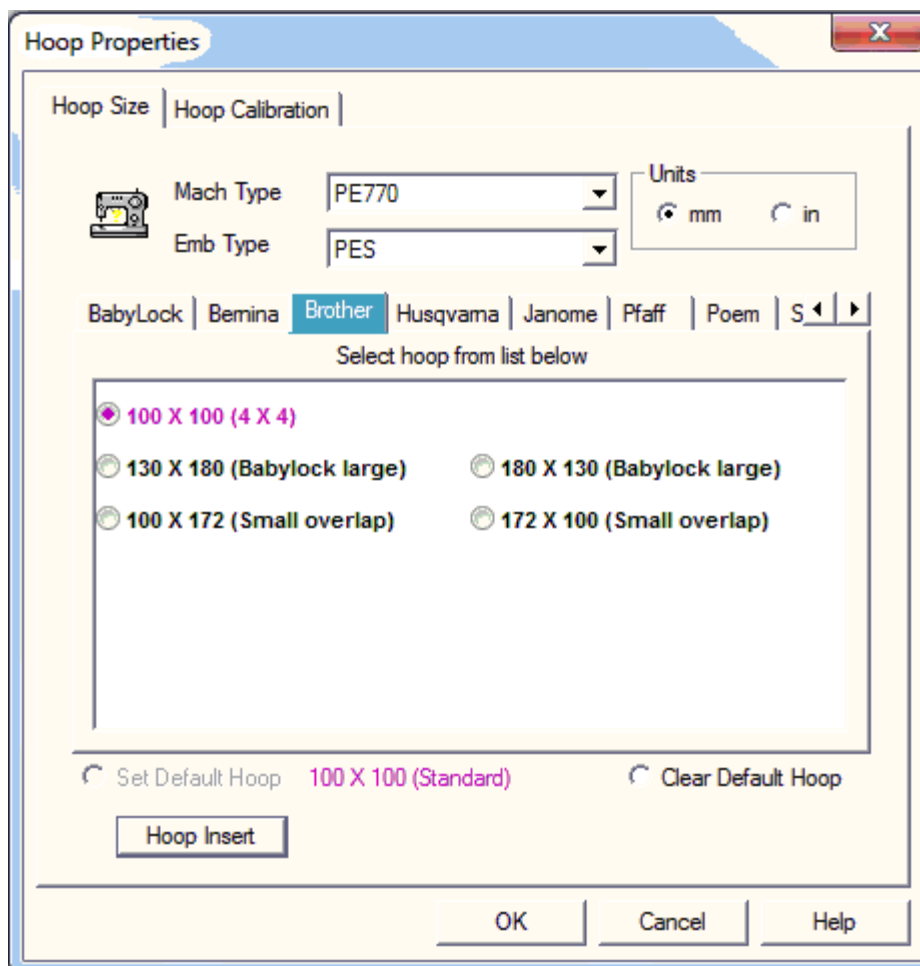

Figure 1 Dialog displayed by clicking the "Hoop Size" tab
- The tabs allow you to display the available hoop sizes for various embroidery machine manufacturers. In Fig. 1, the manufacturer "Brother" has been selected by clicking on that tab. Use the horizontal scroll buttons (to the right of the tabs) to find a manufacturer if it is not
displayed. The list of hoops for that manufacturer *and* the selected machine type will be displayed in the list box. In Fig.1, the selected machine type is the Brother "PE770". You can use the optional vertical scrollbar (to the right of the hoop list) to display the complete list of hoop sizes. Select the desired hoop size by clicking on the radio button beside the hoop description. Your selection will be highlighted and can be altered at any time before you close this dialog by clicking on a different hoop size. Once you have selected the desired hoop size, you may also set this to be the default for your machine by checking the *Set Default Hoop* button. This is the hoop that patterns without internal hoop information will open into, or **all** patterns if the File Options Use Default Machine Hoop button is also checked. The embroidery file types supported by this manufacturer can be seen by scrolling the *Emb Types* list. Setting this type will change the current pattern to that type when the *OK* button is clicked.